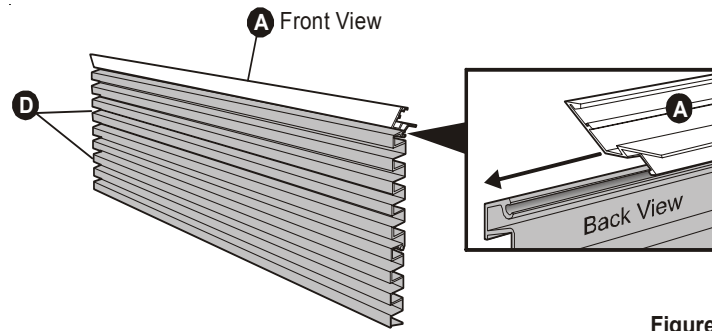

Figure 2
- Slide 1 top grille (D) into top trim (A). Slide 2nd top grille (D) into 1st top grille (D). See Figure 2. Tape together to prevent parts from sliding.